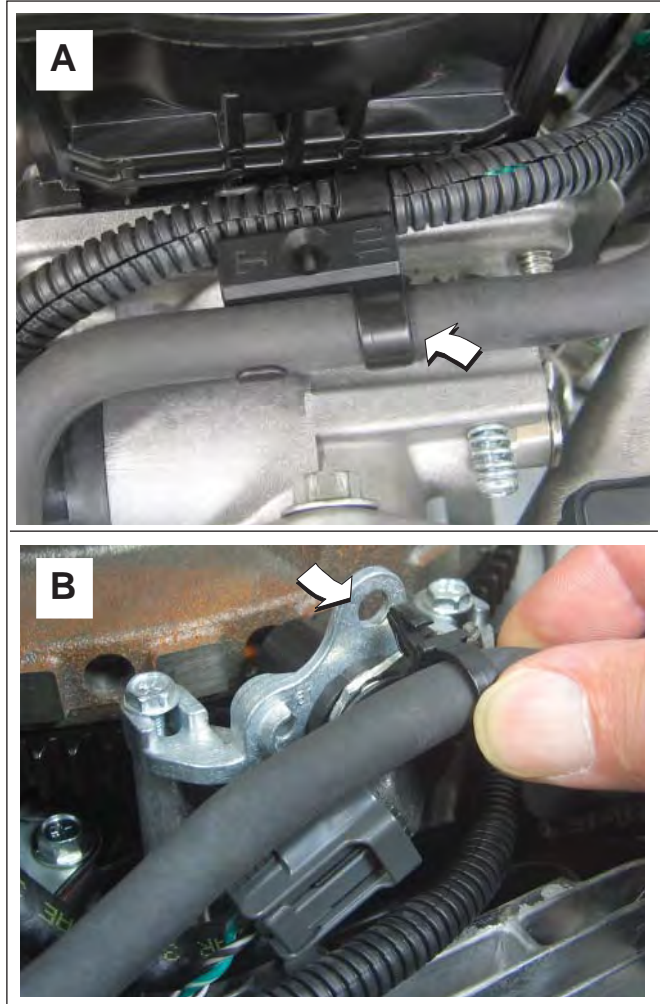

Figure 5-7 Remove/Install Fuel Rail From Clips.
3. Remove EFI wire harness retaining clip from fuel rail. See A of Figure 5-7.
4. Remove fuel rail retaining clip from hole in CKP sensor bracket. Remove fuel rail retaining clip from fuel rail. See B of Figure 5-7.